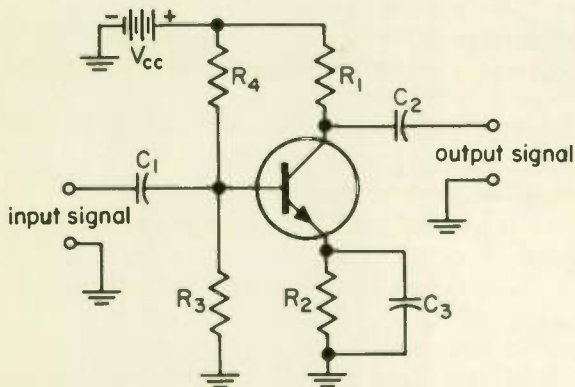

Fig. 31
54. What is the purpose of $R_2 - C_3$ in Fig. 31?
- (1) To provide bias to the base.
- (2) To improve the gain of the stage.
- (3) To equalize the amplifier so that it will have a more uniform gain for different frequencies.
- (4) To provide temperature stabilization.
55. Which three of the following changes will increase the collector current in Fig. 31. Mark *all three* on your answer sheet.